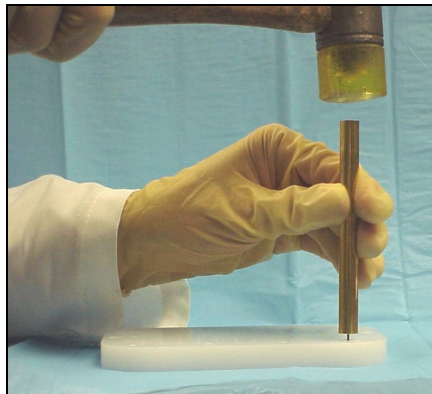

Figure 10: Seating a needle with the needle replacement tool and a mallet
8. Sufficient hand force will seat the needle with the replacement tool. However, if you cannot seat the needle with hand force, use a hammer or mallet to tap on the end of the needle replacement tool until the tool is flush with the needle plate. (See Figure 10.) Multiple light taps are preferable to a single hard blow on the replacement tool.